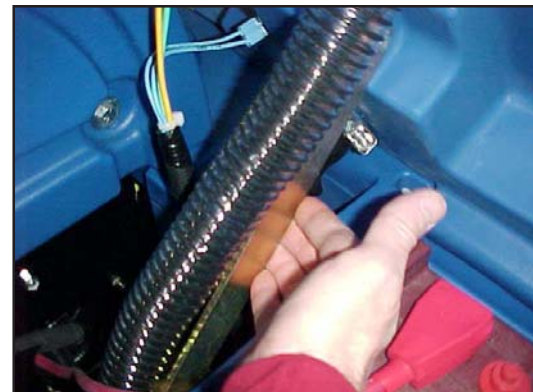

Figure 15
2. Before charging the batteries, the battery compartment needs to be vented. To vent compartment, tip up the recovery tank until it locks in the open position (see figure 15). To close the tank, pull up on the arm and then slowly lower the tank to the closed position.